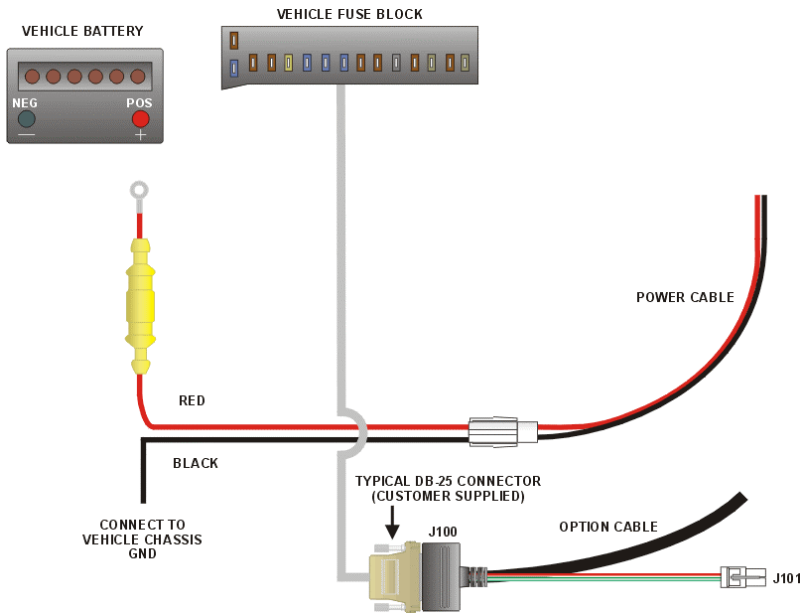

Figure 6 – Power Cable RPM 113 7674/10
The power cable RPM 113 7674/10 consists of a two-wire cable, see Figure 6. The red fused lead supplies power to the radio directly from the vehicle battery. Ignition Sense lead, through the separate option cable, is used by the radio electronics to determine when the ignition switch is turned on. The black lead is the radio ground connection.
4. Connect the BLACK lead to the vehicle chassis. Connect the lead as close to the radio as possible. **DO NOT** connect the BLACK lead to the “NEG” or “-“ battery post. Connect the RED lead to the positive (“POS” or “+”) battery post. See Figure 6.
Connect Pin 13 of the option cable to an ignition “ON” sense point (preferably an “Accessory” point in the vehicle fuse panel) that is switched on when the vehicle ignition switch is in the ACCESSORY and RUN positions. This lead should be connected so the vehicle fuse protection is used. See Figure 6.